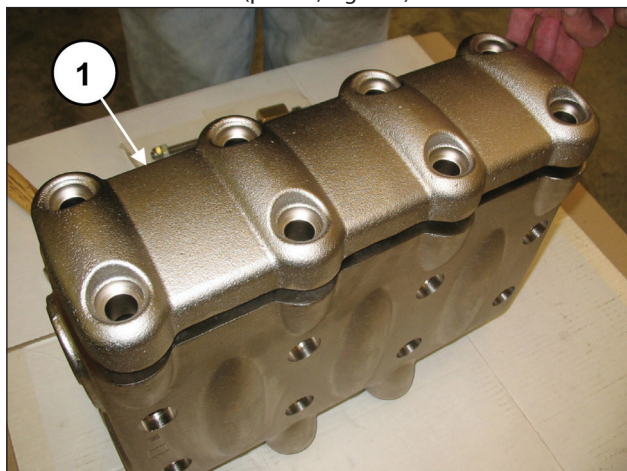
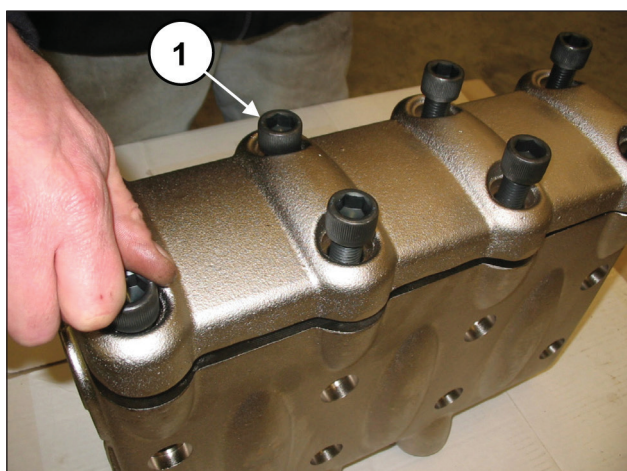

Fig. 115
Fig. 116
After having completed assembly of the valve units and the valve plug, apply the valve cover (pos. ①, Fig. 115) and screw in the 8 M16x55 screws (pos. ①, Fig. 116).